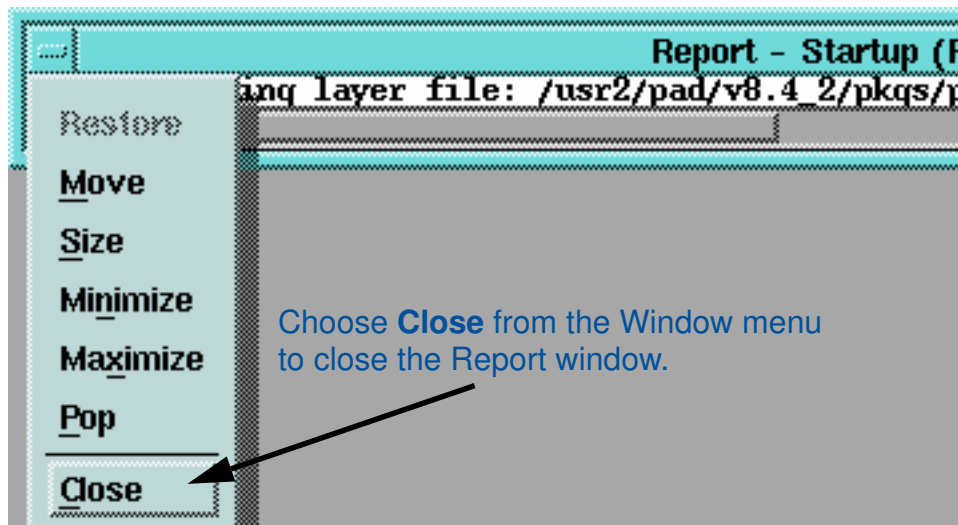
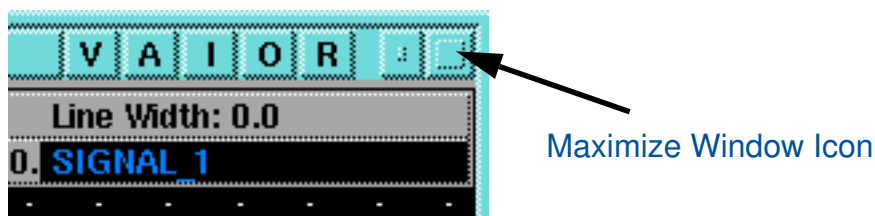

Figure 1-12. Closing the Report Window
Figure 1-13. Maximize Window Icon
5. After reading the report notes, close the report window as shown in Figure 1-12, and then maximize the size of the LIBRARIAN session window to fill the display by clicking the Select mouse button on the Maximize window icon shown in Figure 1-13.